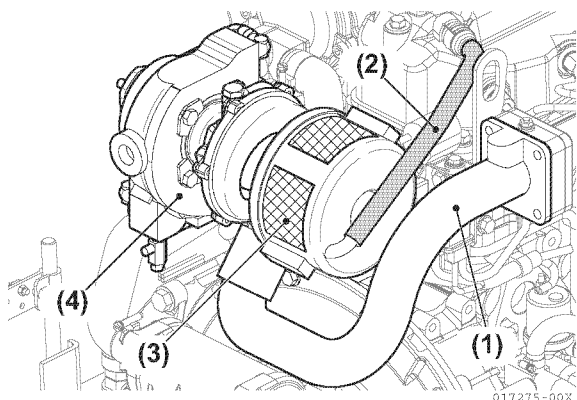
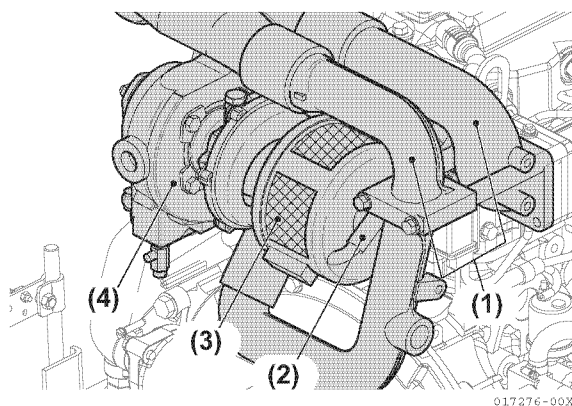

Figure 5-18
Figure 5-19
- Remove the intake pipes (turbine, intercooler, intake manifold) (Figure 5-18) and (Figure 5-19).